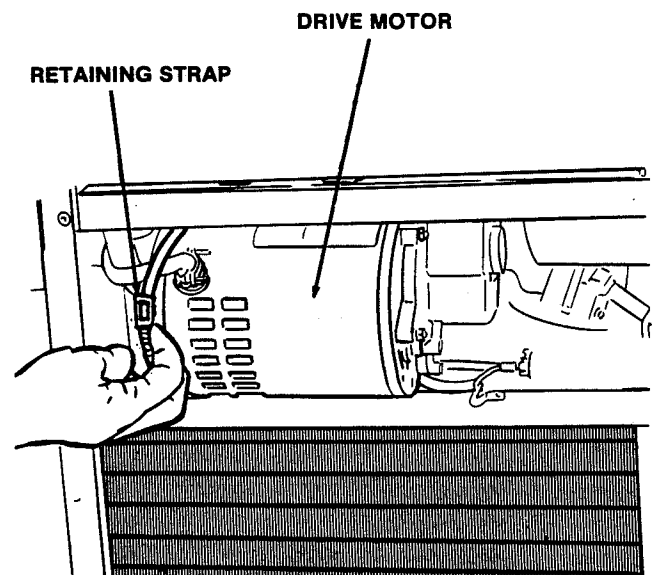

Figure 59. Drive Motor and Retaining Clamp
2. Cut the shipping strap on the drive motor and slide forward (1/2 H.P drive only) (Fig. 59).